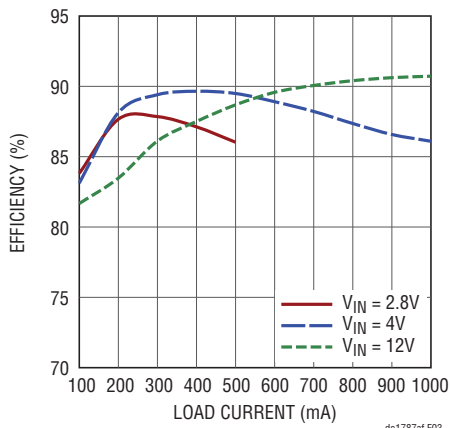

Figure 3. Efficiency Curves
**NOTE:** The output current capability depends on the input voltage, as can be seen in Figure 3. Proper cooling is necessary for overload operations.
6. Once the proper output voltage is established, adjust the input and load within the operating range and observe the output voltage regulation, ripple voltage, efficiency and other parameters. Typical efficiency curve, regulation, and operation waveforms are shown in Figures 3 and 4, respectively.